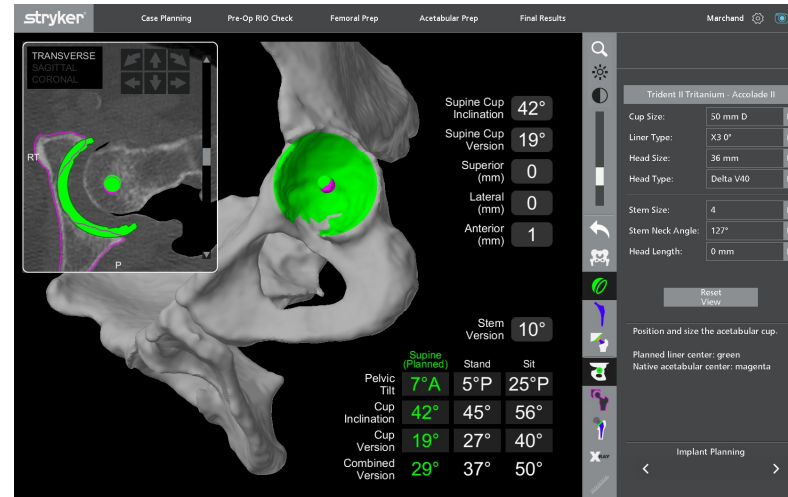

Figure 1
- Using the transverse PIP view, confirm that the center of the cup is between the anterior and posterior columns (Figure 1)
- Confirm planned bone removal and centered resection using the reaming view (Figure 1)